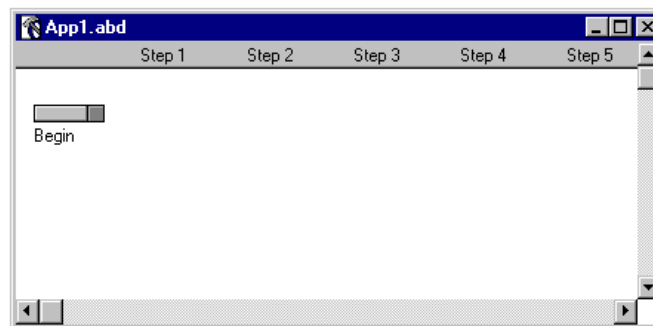

Figure 3-4 New Application Design Window
4. A new application design window opens (Figure 3-4) with one Input Handler (“Begin” Handler) and 64 empty steps.